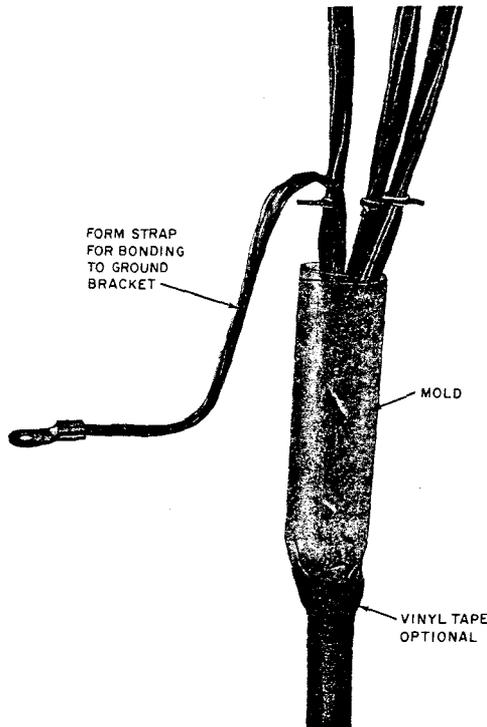

Fig. 11—Bonding Strap Formed
- (l) Form the strap and bond to the ground bracket by means of 10—32 machine screw, nut and washers (lock and flat) (Fig. 11).